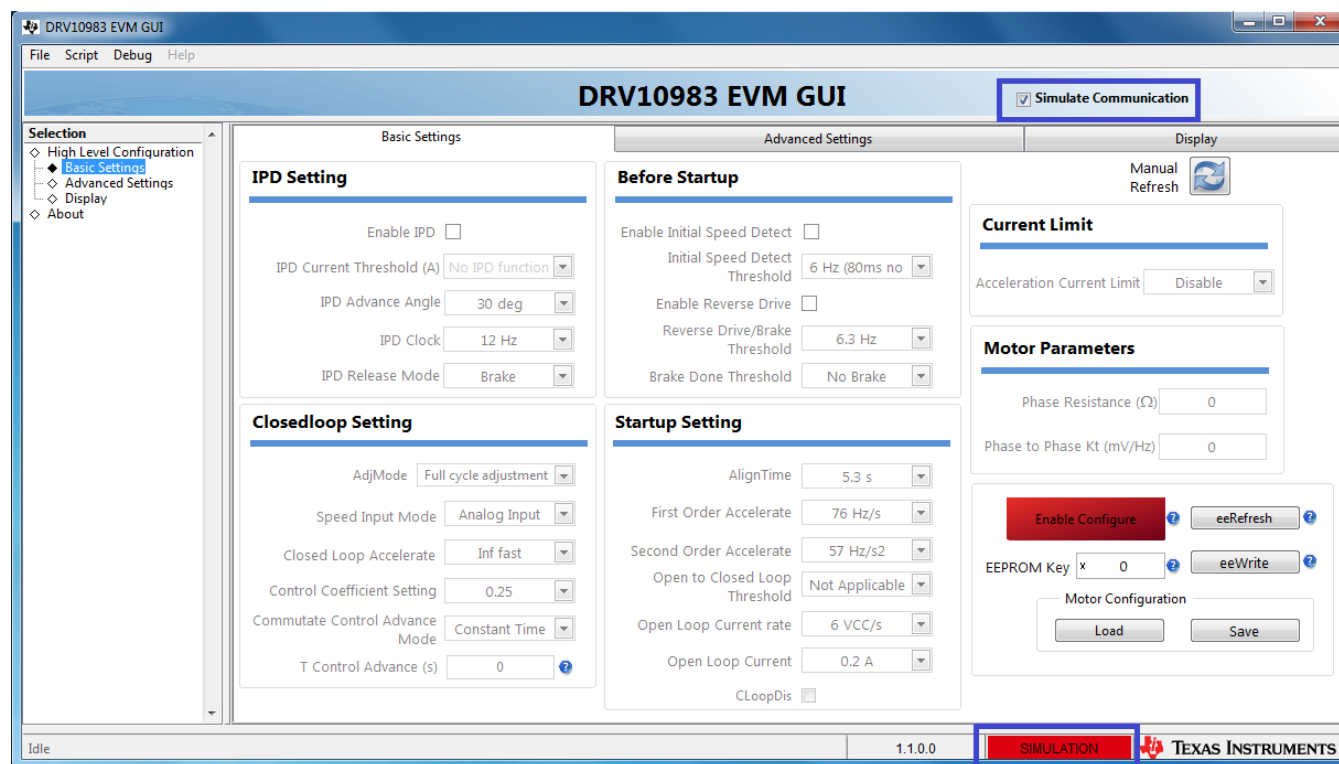

Figure 6. GUI in Simulation Mode
7. If Simulate Communication was enabled previously, the following GUI screen image would appear as shown in Figure 6. Uncheck the Simulate Communication box to go to next step. Otherwise, the GUI screen image shown in Step 8 will appear directly, after Step 6.